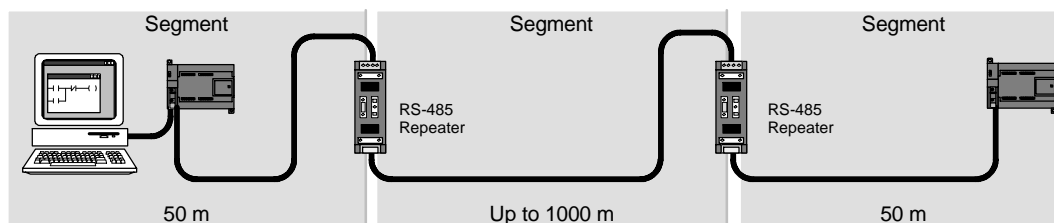

Figure 7-21 Sample Network with Repeaters
- ☐ *To increase the length of a network:* Adding a repeater to your network allows you to extend the network another 50 m. If you connect two repeaters with no other nodes in between (as shown in Figure 7-21), you can extend the network to the maximum cable length for the baud rate. You can use up to 9 repeaters in series on a network, but the total length of the network must not exceed 9600 m.